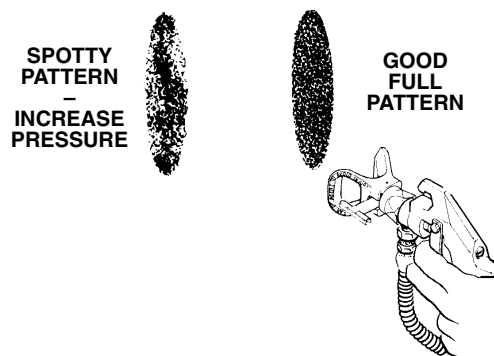

Fig 4
3. **Adjusting the spray pattern** (Refer to Fig 4.)